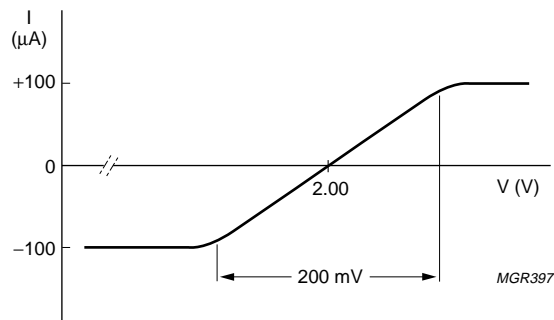
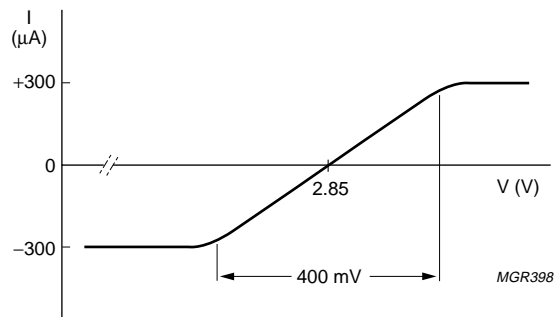

Fig.9 Typical clamp current for pin CPCDS.
Fig.10 Typical clamp current for pins IND and INP.
- More information about CDS related signals is available in the following figures: The clamp current for pin CPCDS is given in Fig. 9, clamp current for pins IND and INP in Fig 10 and for clamp current for pin Vref in Fig 11. The CDS output amplitude is shown in Fig. 14